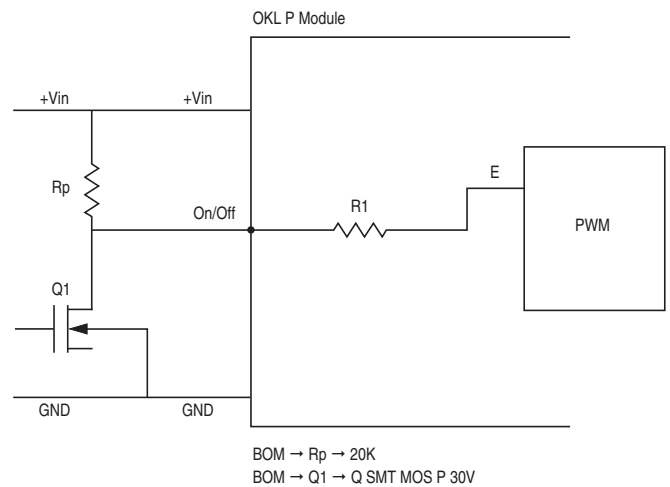

Figure 7. On/Off Circuit Control for Using Positive On/Off Logic
The OKL Series power modules can be specified with either a positive or negative logic type. See Figures 7 and 8 for On/Off circuit control. In the positive logic on/off option the unit turns on during a logic high on the On/Off pin and turns off during a logic low. In a negative logic on/off option, the unit turns off during logic high and on during logic low. The On/Off signal should always be reference to ground. For positive or negative option, leaving then On/Off pin disconnected will turn the unit on when input voltage is present.
**Positive**—Units are enabled when the on/off pin is left open or is pulled high to +Vin. The On/Off circuit control is shown in figure 7. When the external transistor Q1 is in the off state, the internal PWM enable pin is pull high causing the unit to turn on. When Q1 is turn on, the On/Off pin is pulled low and the units is off. Rp should be around 20K ohms.